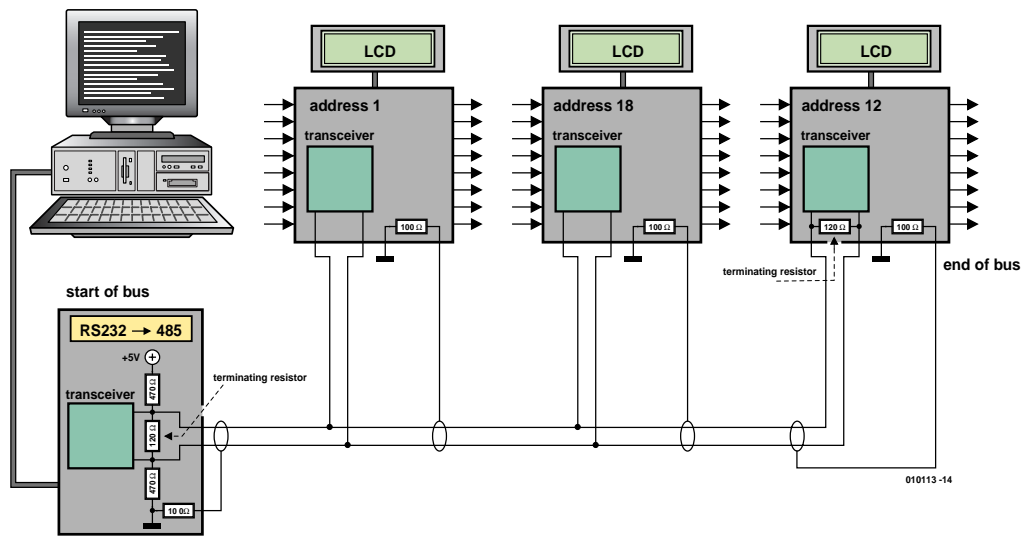
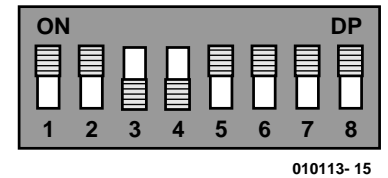

Figure 6. A practical example of a bus with three terminals.
Figure 7. The terminal address has been set to 12 using DIP switch S1.
**Figure 6** shows how three terminals should be connected to the bus and where the terminating resistors are to be placed.
of the terminal is set using the first six switches of DIP-switch S1. The example in **Figure 7** shows an address of 12 (binary value  $4 + 8 = 12$ ). Jumpers JP1 and JP2 in the terminal circuit are for use at the start of the bus (parallel resistors of 470  $\Omega$  to 5 V and GND respectively). Jumper JP3 is used to connect the 120  $\Omega$  terminating resistor; in **Figure 6** terminal 12 is at the end of the bus, so it has this jumper closed.